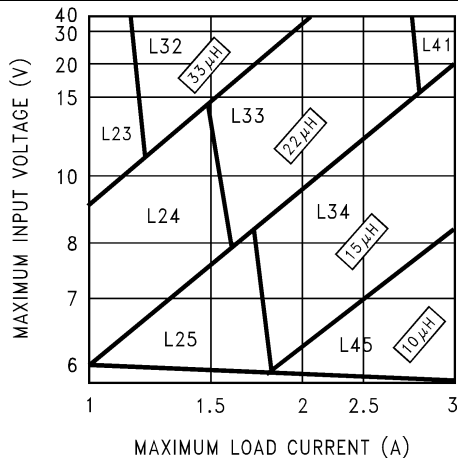
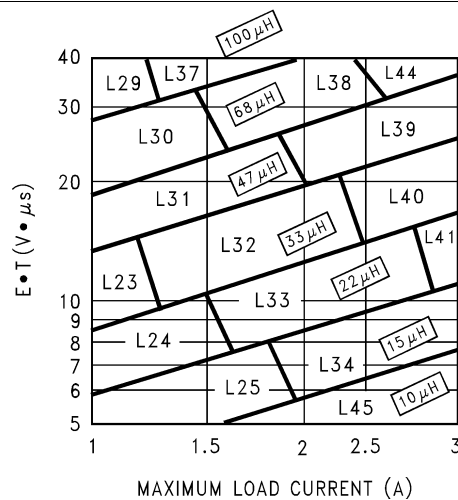

Figure 17. LM2670 – 3.3 V
Figure 20. LM2670 – Adjustable
Step 3: Determine the inductor required by using one of the four nomographs, Figure 17 through Figure 20. Table 3 provides a specific manufacturer and part number for the inductor.
Step 5: Determine an input capacitor from Table 7 or Table 8 for fixed output voltage applications. Use Table 1 or Table 2 to find the specific capacitor type. For adjustable output circuits select a capacitor from Table 1 or Table 2 with a sufficient working voltage (WV) rating greater than $V_{IN\ max}$, and an RMS current rating greater than one-half the maximum load current (2 or more capacitors in parallel may be required).
Step 3: Use the nomograph for the 3.3-V device, Figure 17. The intersection of the 16 V horizontal line ($V_{IN \text{ max}}$) and the 2.5 A vertical line ($I_{LOAD \text{ max}}$) indicates that L33, a 22- μH inductor, is required.